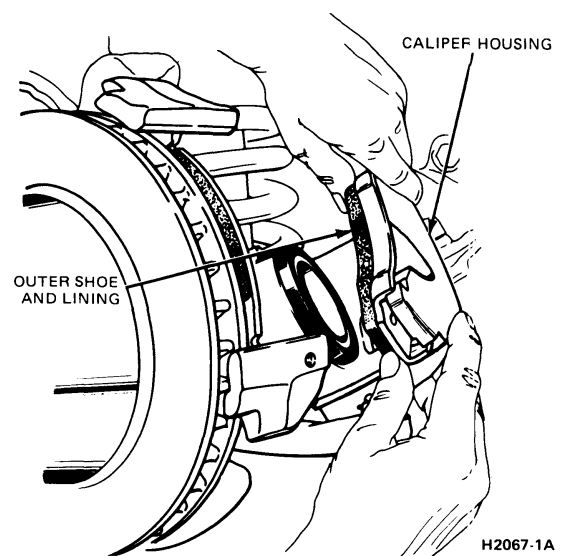

FIG. 18 Removing Outer Shoe and Lining
7. Remove the outer shoe and lining from the caliper (Fig. 18). It may be necessary to tap the shoe to loosen the shoe flange from the caliper.